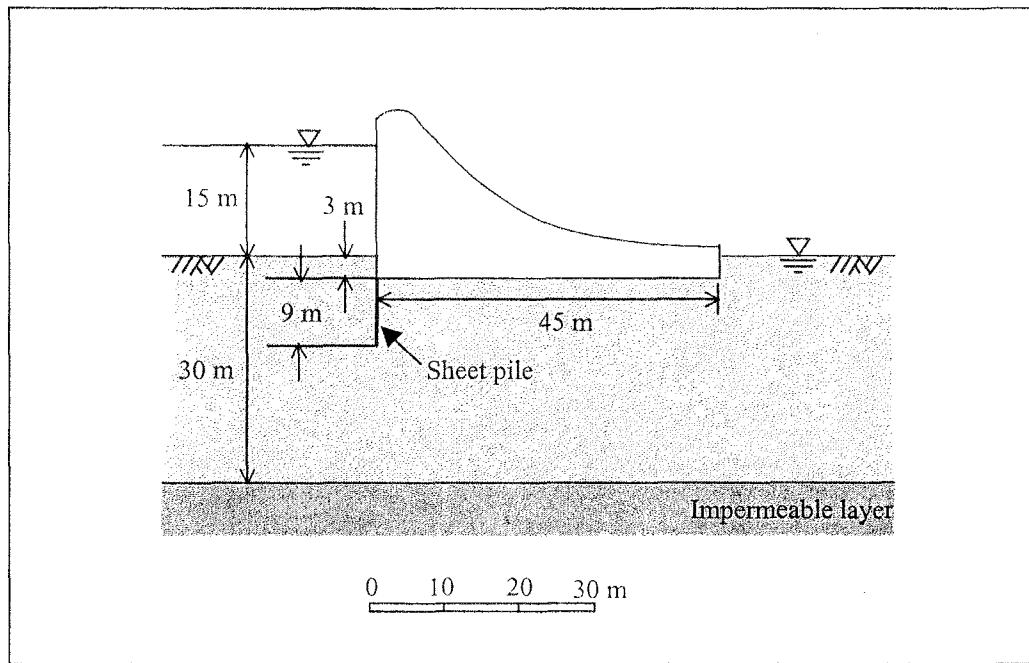

Figure 3.0
- (c) Based on question (b), if a sheet pile wall that penetrates 9.0 m into the soil is to be installed at the upstream side of the dam as shown in Figure 3.0 in order to reduce seepage under the dam, determine the quantity of seepage under the dam. If the same sheet pile walls are to be installed at both sides of the dam, how will the seepage under the dam be affected?